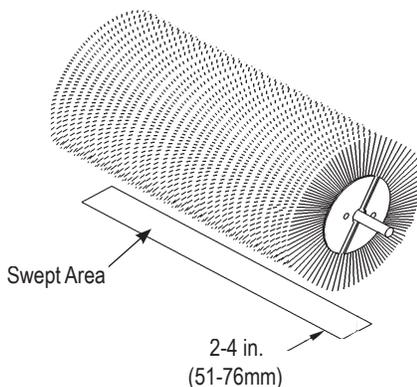

figure 4
4. Raise the sweeper and back away; switch off the engine and remove the key. The brush pattern left in the dust should be 2-4 inches wide, running the length of the brush. (Compare the swept area with figure 4.)